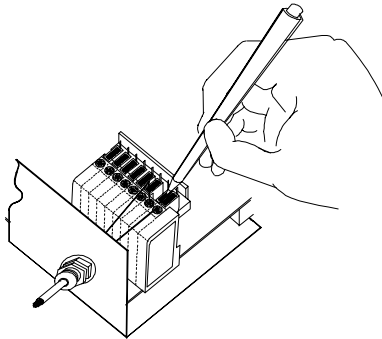

Figure 8 - System cable connections
- Using a device such as a screwdriver, push down on the lever directly next to the clamp (see Figure 8).